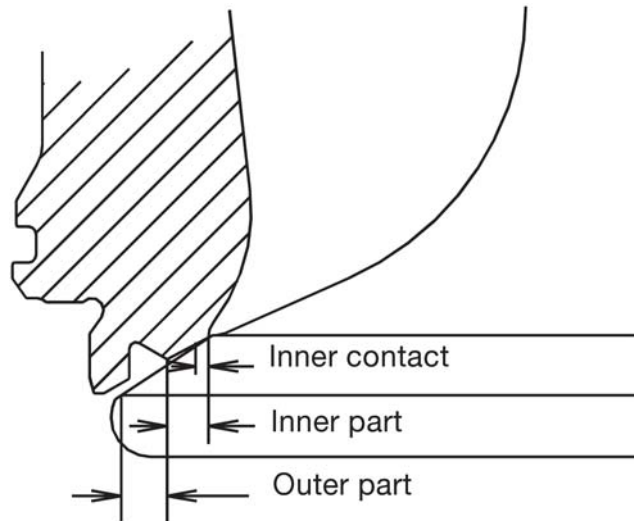

Fig.1: Inner contact, and zone designation
Fig. 1 shows inner contact between the seats of the spindle and bottom piece, corresponding to slow/low-load/manoeuvring condition.
There must be no blow-by “tracks” across the inner part of the seat (*Figs. 1 + 4, and Photo 1*).
- Check the outer part of the seat for high temperature corrosion (**Fig. 1 and Photo 3**).